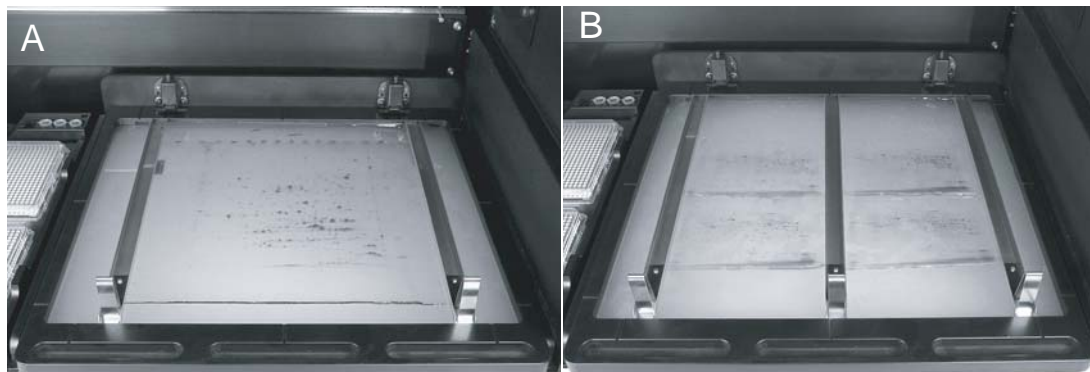

Figure 4-1. Gel placement for: A, Single gels; B, Multiple gels.
4. Clamp the gels and cutting mat in place with the gel clamps (see Figure 4-1). Use two clamps to hold a single gel in place or 2 to 4 clamps to hold 2 to 4 gels or broken gels in place. The gel clamps are installed by inserting them into the cutting tray slots at the front and back of the gel tray (See Figure 4-1). The spring clip should be oriented to the front. The gel clamps should be slid tightly up against the sides of glassed backed gels or directly on all other types of gels and blots.